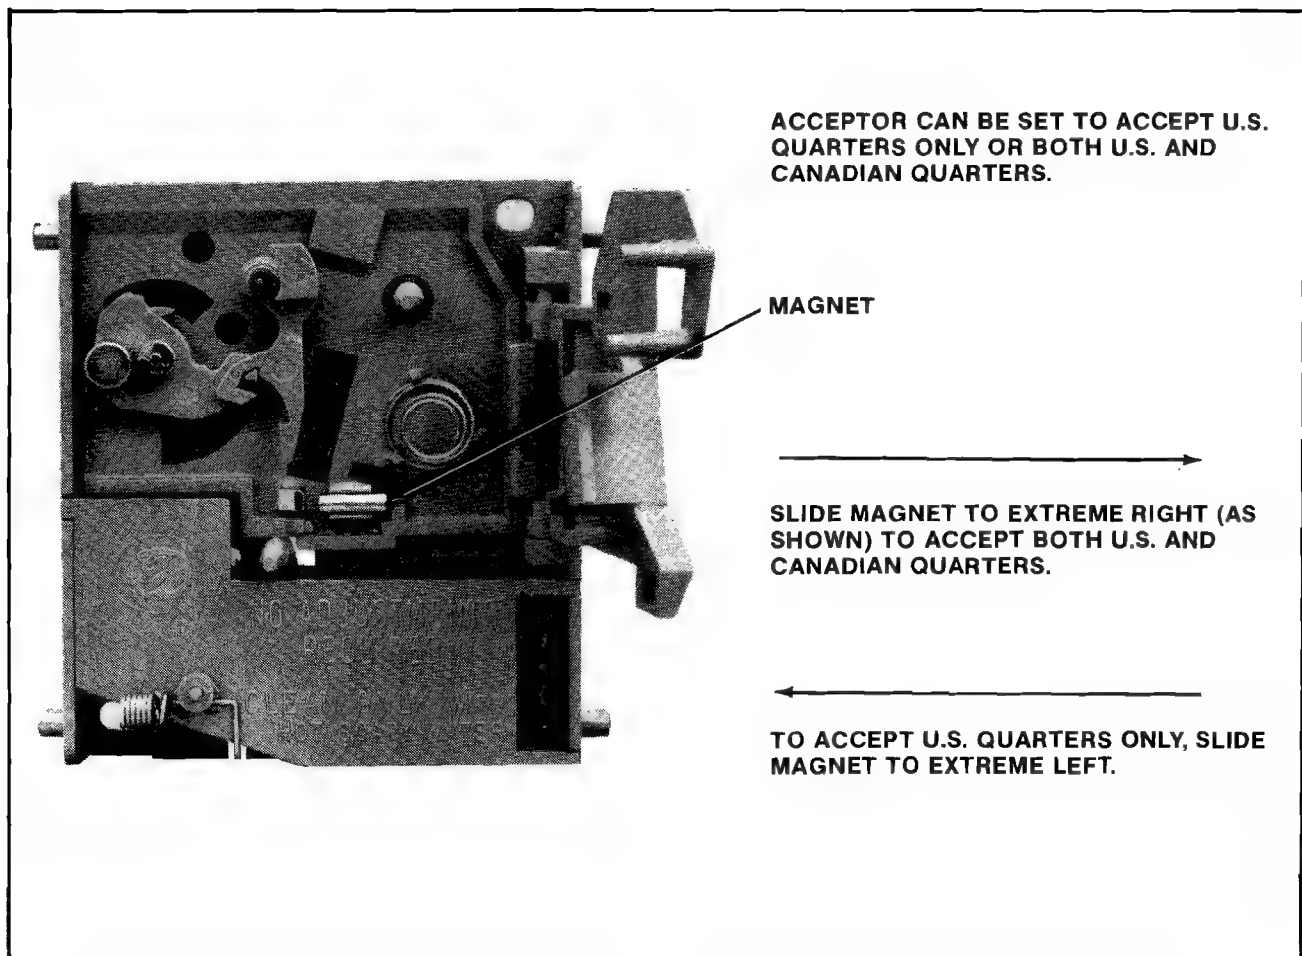

Figure 5-5 Changing the Plastic Coin Acceptor to Accept American or Canadian Quarters
6. Reinstall the coin acceptor to the coin door. See Figure 5-5.